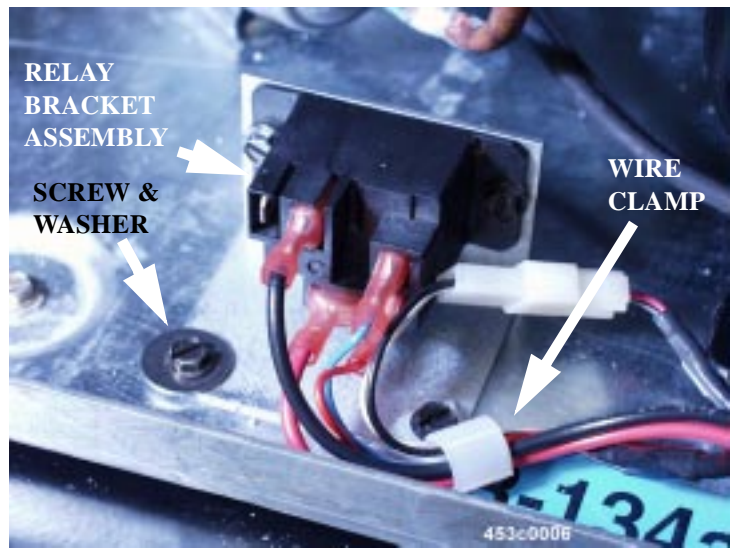

Figure 7
2. Fasten the relay bracket assembly (4534065) to the refrigeration chassis using the same holes that the relay was removed from in step 1. Use a screw (removed in step 1) and washer (4402041) on the left side and a screw (removed in step 1) and wire clamp (1452139) on the right side of the relay bracket. The wire clamp should be positioned so that the clamp is facing the right (see figure 7).
3. Place the five relay wires into the wire clamp. ***Ensure that the wires have some slack so that they are not taut*** (see figure 7).